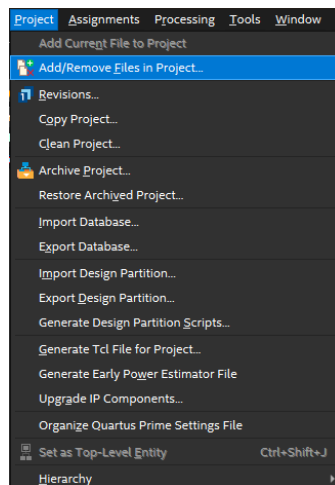

Figure 1. Add Files
3. In the top menu, select **Project → Add/Remove Files in Project...**, as shown in Figure 1. A new window will appear.